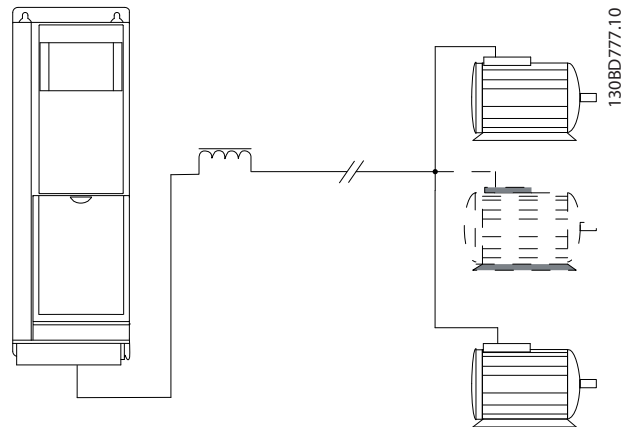
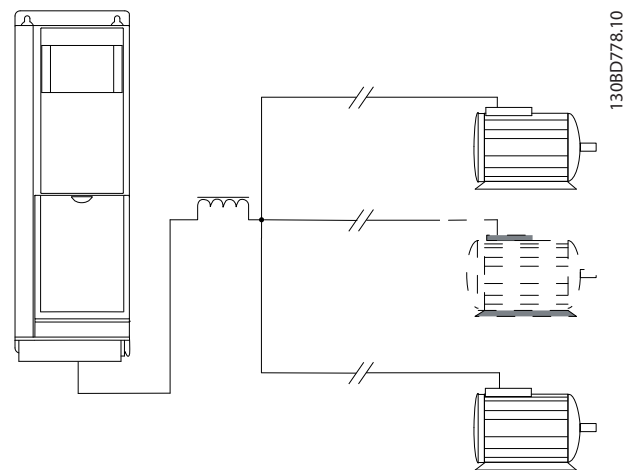

Figure 9.53 Parallel Cables with Load
Figure 9.54 LC Filter for Long Parallel Cables
- The total motor cable length specified in Table 5.2, is valid as long as the parallel cables are kept short (less than 10 m each), see Figure 9.53 and Figure 9.54.
- Consider voltage drop across the motor cable, see Figure 9.54.
- For long parallel cables, use LC filter, see Figure 9.54.